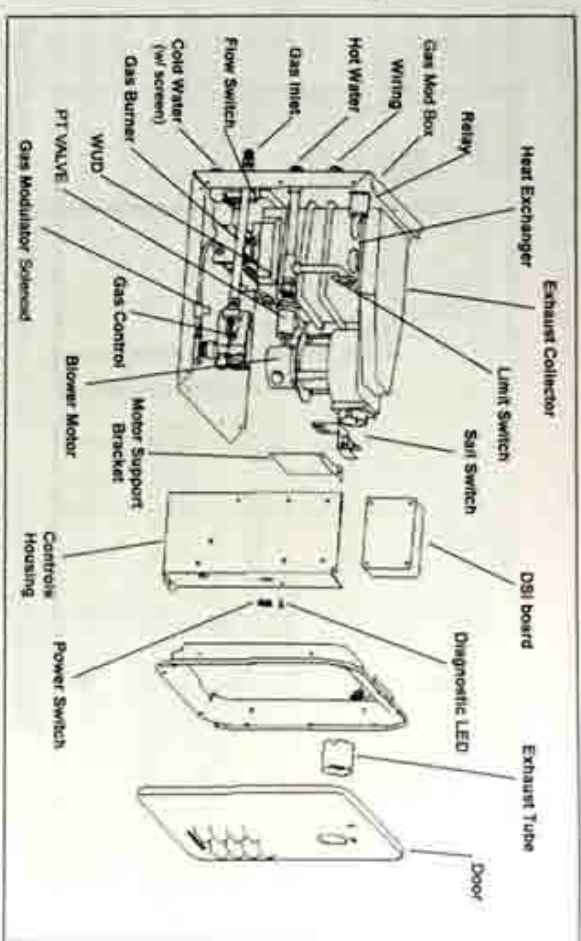

Figure 9 - EXPLODED VIEW OF MODEL GSWH-1M AND MAJOR COMPONENTS IDENTIFICATION
1. **Figure 9:** Shows an exploded view of the GSWH-1M water heater with identification labels for all components.